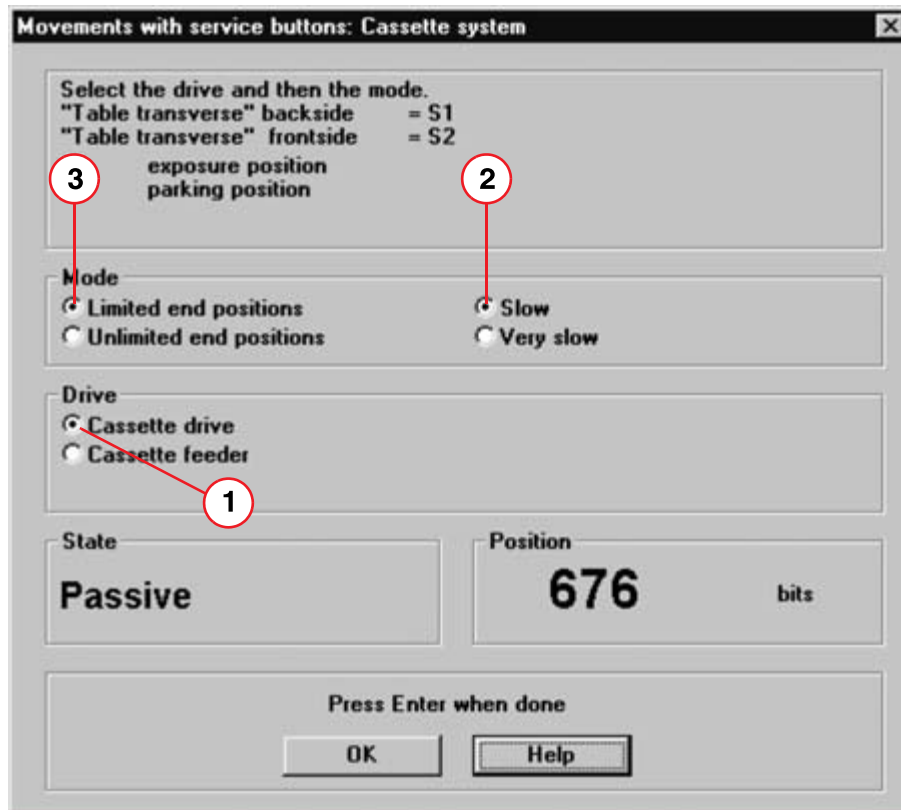

Fig. 107: Window "Movements with service button: Cassette system"
- Select **Cassette drive**, **Limited end position** and **slow** (1/2/3/ Fig. 107 / p. 94).